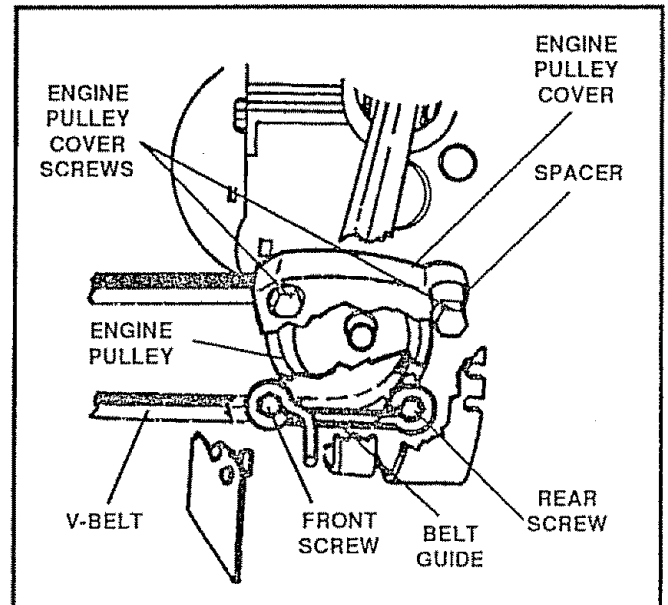

FIG. 10
- Remove the screws from the engine pulley cover (See Fig. 10) and remove the cover.
- Remove the front screw securing the belt guide (See Fig. 10) to the engine. Then loosen the rear screw and swing the belt guide away from the belt.